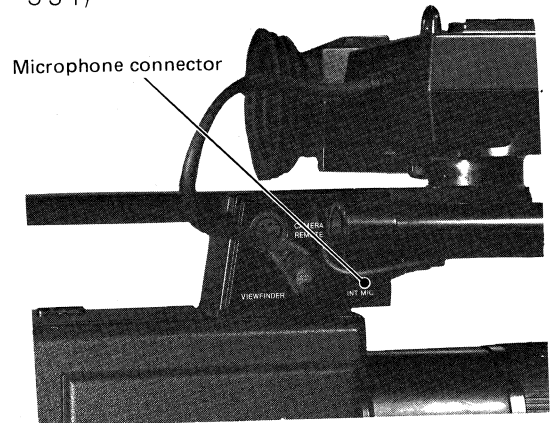

Fig. 3-3-1
- Remove the microphone by pulling it forward. (Fig. 3-3-1)